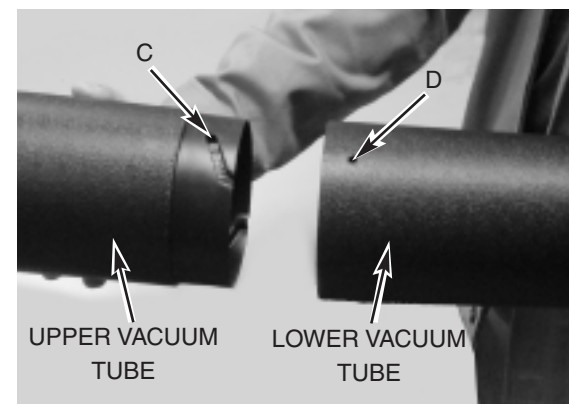
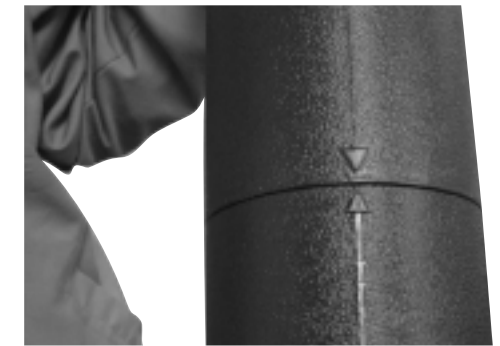

Fig. 7
Fig. 8
5. Align grooves (D) on the lower vacuum tube with locking hole (C) in the upper vacuum tube (Fig. 7) then connect 2 tubes until the 2 arrows line up.(Fig. 8)